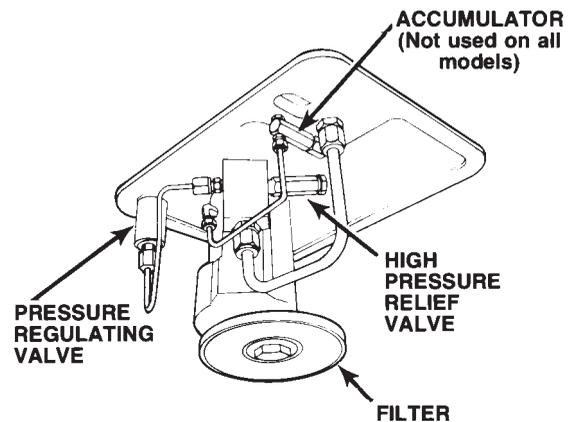

FIGURE 6
1. Remove the ten screws fastening the motor and pump assembly to the reservoir. **IMPORTANT:** Do not damage the gasket or pump the filter or pressure regulating valves when lifting the pump and motor off the reservoir. See Figure 6.